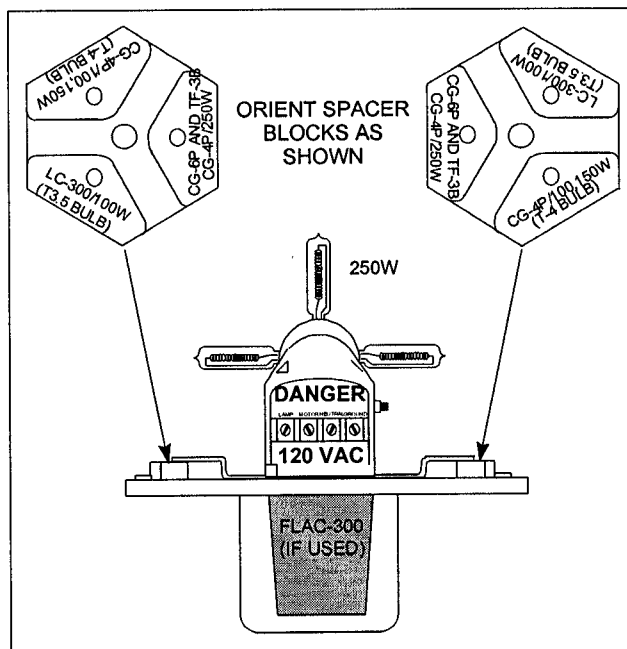

Figure 4-5
- j. Attach the lantern mounting bracket to the base of the CG-4P with the screws supplied so that the lampchanger fits into the "well" (marked CG-4P) on the bracket, as shown in figure 4-5. If the FLAC-300 is used, attach it to the center hole in the bracket with an 8-32x5/16" screw.
combination, as shown in Figure 4-5. Loosen the mounting screw and rotate the block until the selected surface aligns with the threaded hole in the back wall. Gently tighten the mounting screw.